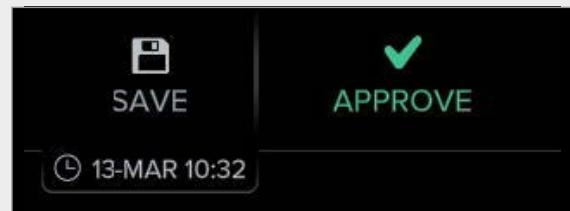

Figure 79. Save and approve buttons
Save Button (Figure 79)
- Click on the “Save” button in the upper right corner to save changes to the type, location, and orientation of implants without approving the plan(s). Once the plan has been saved, it will be time-stamped as shown in Figure 79.
Approve Button (Figure 79)